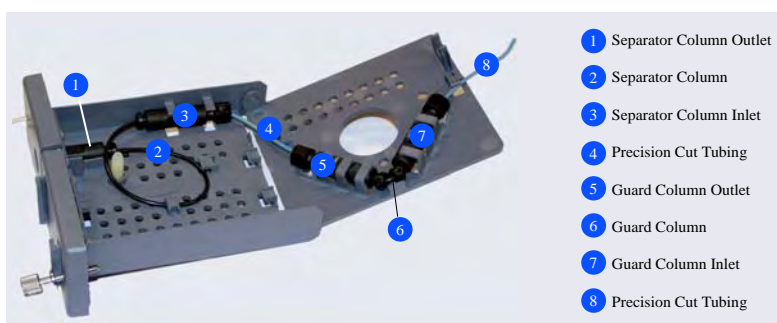
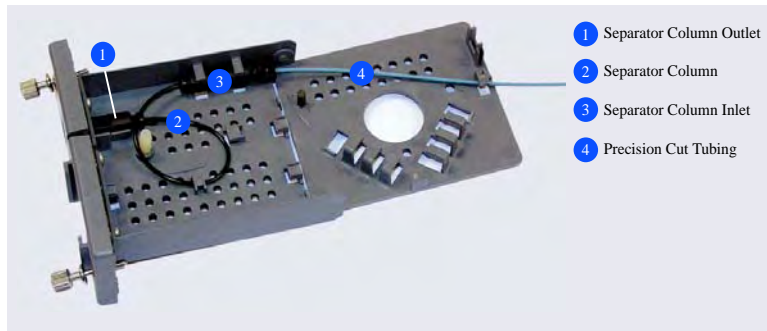

Figure 1
Figure 2
2. For reference, Figure 1 shows the column cartridge after installation of both a capillary guard column and a capillary separator column. Figure 2 shows the column cartridge after installation of only a capillary separator column.
- Coil the separator column tubing inside the cartridge as shown in Figure 1 or Figure 2. Secure the column tubing and the inlet fitting in the clips on the column cartridge.